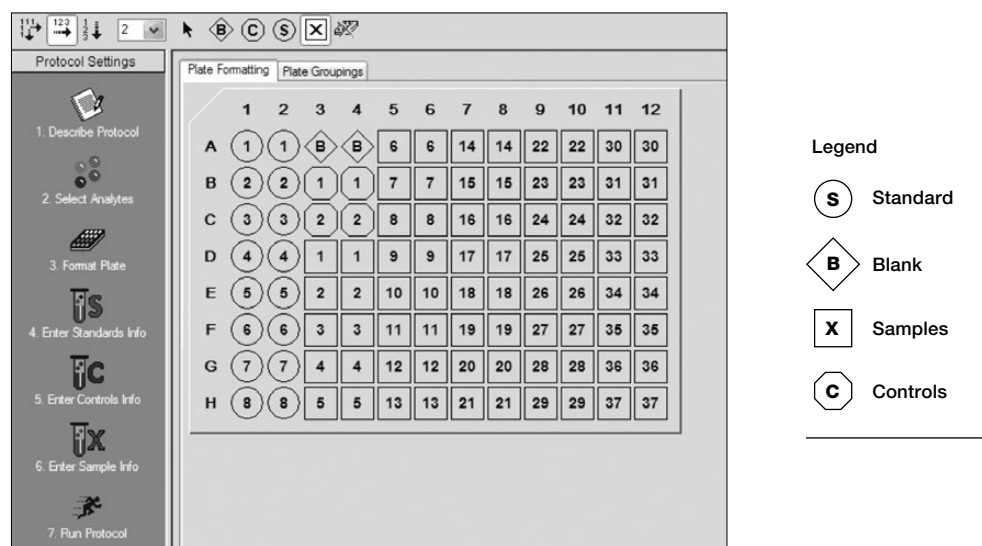

Fig. 4. Plate formatting.
3. Click **Format Plate** and format the plate according to the plate layout created in the Plan Plate Layout step (page 7). To modify the plate layout, follow these steps (see Figure 4).
- b. Select the standards icon (S) and drag the cursor over all the wells that contain standards. Repeat this process for blanks (B), controls (C), and samples (X).